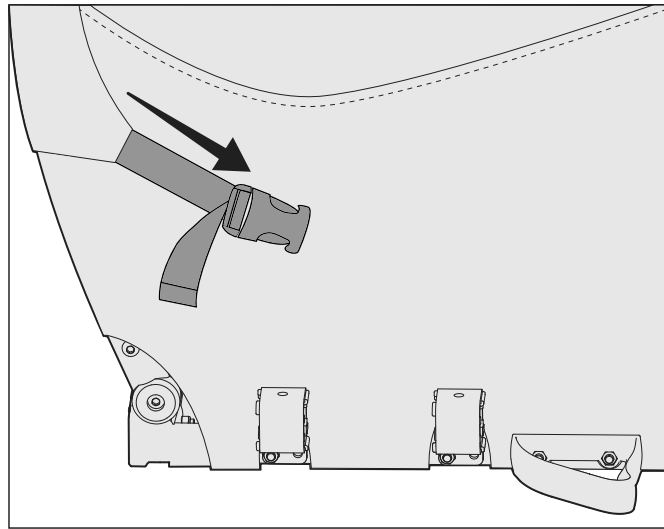

Figure 10
1. Buckle both front corners of the cover to the sides of the trailer. (Figure 10)